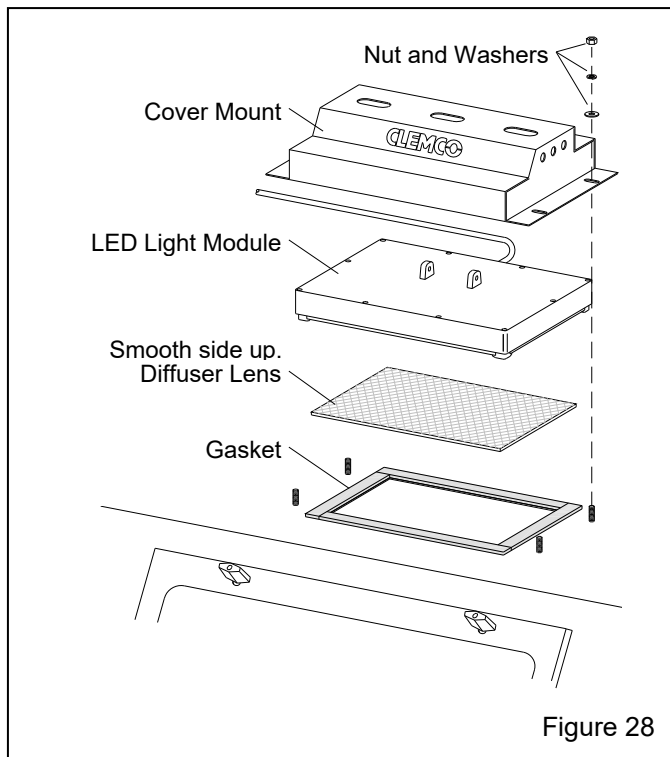

Figure 28
**7.7.2** Remove the four nuts and washers attaching the hold-down cover to the cabinet and remove the cover, as shown in Figure 28
**7.7.3.2** Lay a section of strip gasket along the edge of the opening, and cut to length allowing 3/4" overlap on each end. Peel a short section of adhesive backing and adhere the strip gasket to the top edge of the light opening, as shown in Figure 28. Press the gasket to bond. Repeat the process for each side, compressing the ends to seal.